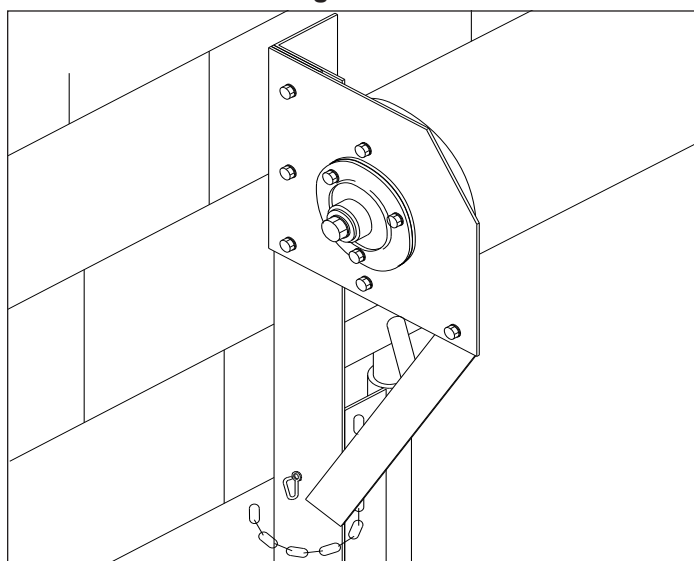

Figure 6.2
2. Secure the cover into position with the screw knob and attach the cover safety chain to the connecting link located on the outside of the frame. Make sure to close the link securely to prevent the chain from coming loose, Figure 6.2.